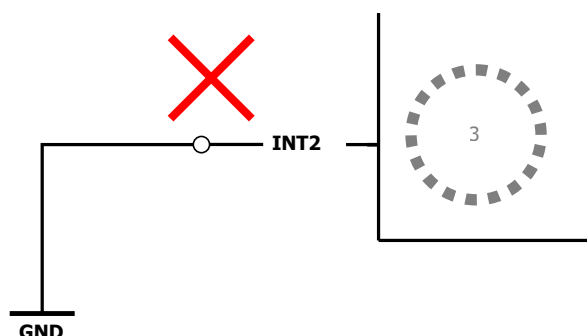

Figure 54: Connection that is not allowed in I²C and I³C before the pin 3 is configured to the output characteristics
- When the output characteristics of pin 3 is disabled (or not yet enabled), please do not connect pin 3 to ground, as shown in figure 54.